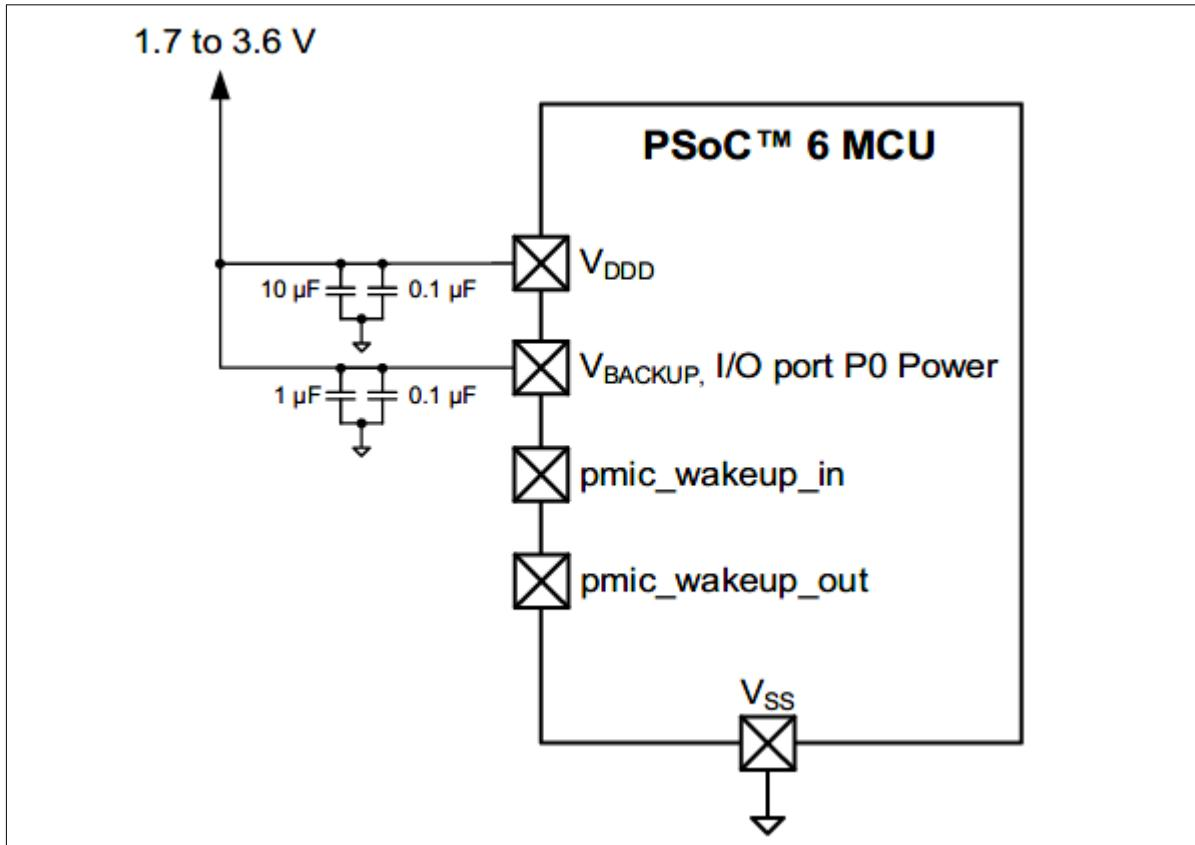

Figure 388 Backup domain combined connection
1. **V_{BACKUP} directly connected to V_{DDD}** – When the backup domain is only used with the full PSoC™ 6 MCU device, there is no reason for a separate supply. V_{BACKUP} and V_{DDD} supply pins must be directly connected together as shown in Figure 388